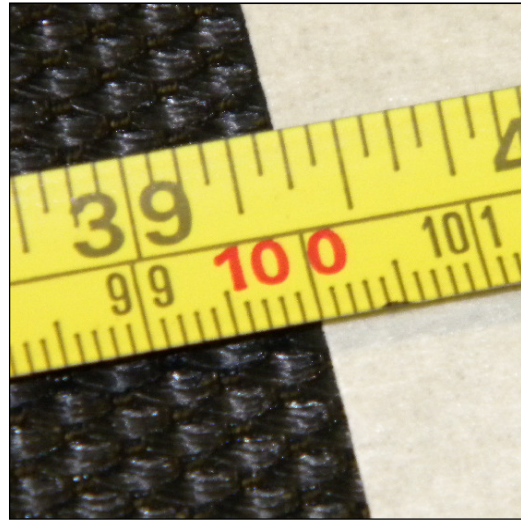

Figure 2
4. Now start tightening the belt till the distance between the two markers is 1003 mm (figure 2)